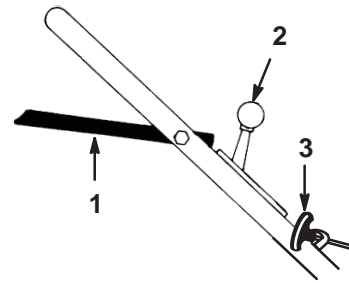

Figure 10
The blade control bail, throttle control, and starter handle are on the upper handle as shown in Figure 10.
3. Move the throttle control to the  (**Choke**) position (Fig. 10).